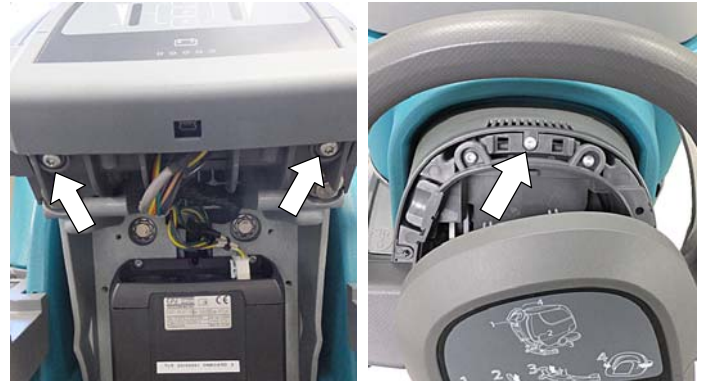

Fig. 2
4. Install foam water deflector - Remove the two lower screws from bezel assembly and position bezel as shown (Figure 2).
Then remove the center screw from the vented console panel and set the panel aside (Figure 2).